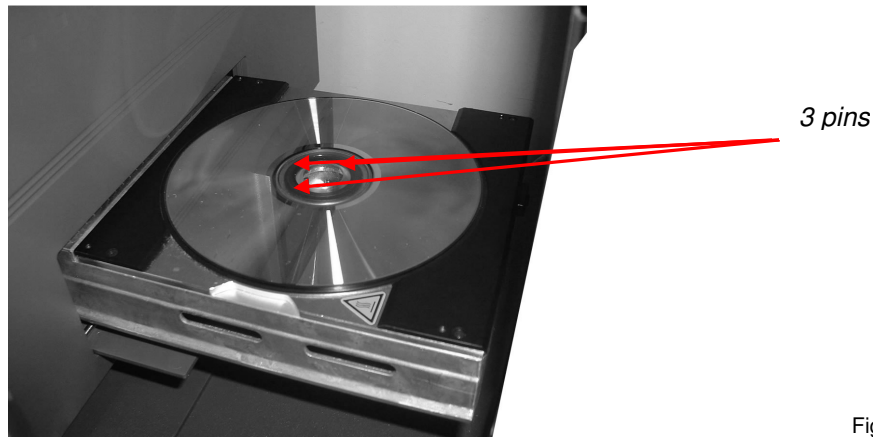

Fig. F5
5. Place a disc onto the Input spindle, move the > cursor to **Insert** and press **Enter**. The robotic arm picks the disc from the Input spindle and places it into the printer CD drawer. The disc should sit on the CD drawer so that the 3 centering pins are in the middle of the disc (see figure F5).